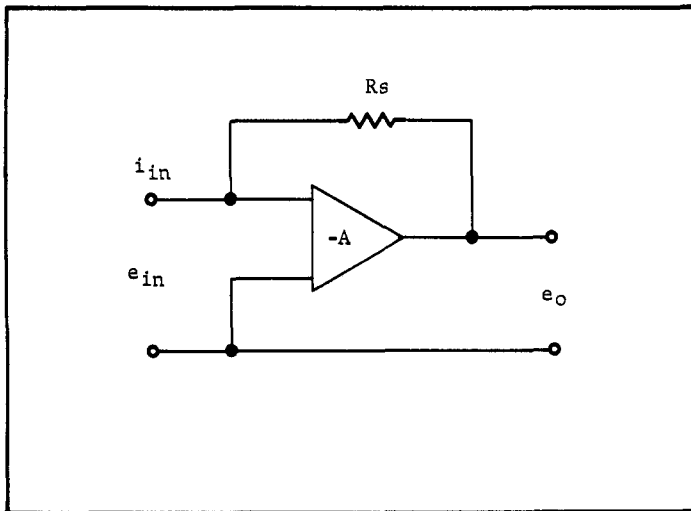

FIGURE 4. Simplified Diagram for Ammeter Circuit.
a. The amplifier has matched insulated-gate field-effect input transistors followed by a differential transistor stage, a transistor amplifier and a transistor output stage. Figure 4 shows the simplified circuit for the Picoammeter.